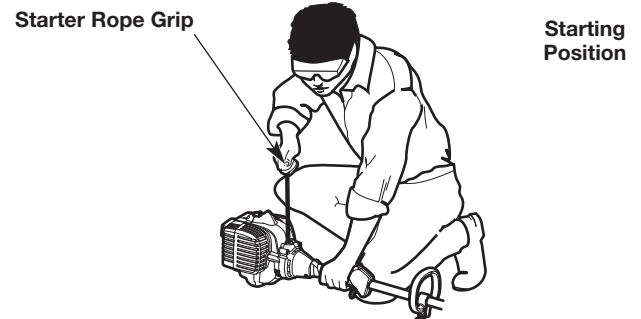

Fig. 12
WARNING: Avoid accidentally starting the unit. To avoid serious injury, the operator and the unit must be in a stable position when pulling the starter rope (Fig. 12).
3. Crouch in the starting position (Fig. 12).
4. Pull the starter rope with a controlled and steady motion until the unit starts (Fig. 12).